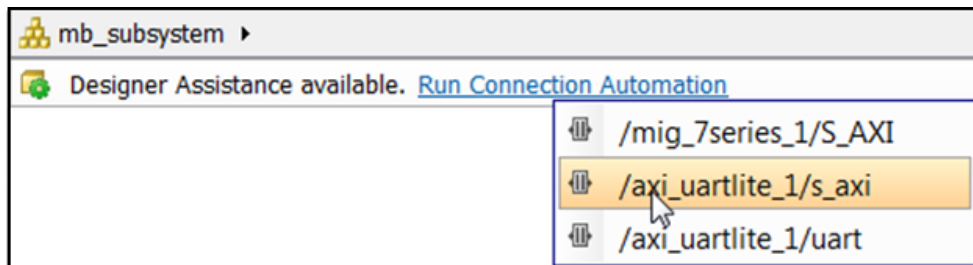

Figure 110: axi_uartlite_1
4. Click **Run Connection Automation** again, and select `/axi_uartlite_1/s_axi` (Figure 110).